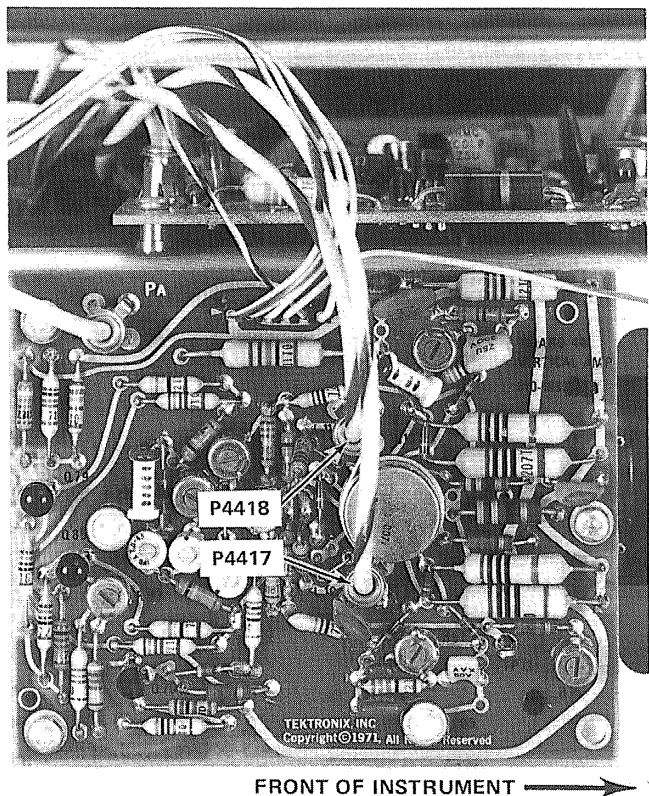

Fig. 3-3. Location of P4417 and P4418 on A44-Vertical Amplifier board.
a. Disconnect coaxial connectors P4417 and P4418 from A44, Vertical Amplifier board (see Fig. 3-3).